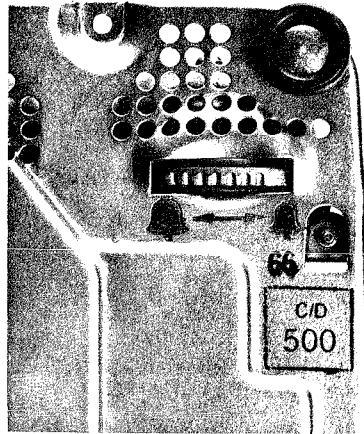

Fig. 3 — Base of 500-Type Set
2.06 All 500- and 554- type sets are manufactured with C4A ringers. The volume of these ringers may be adjusted to one of four levels. (See Fig. 3). A modification can be made to provide bell cutoff when authorized by a Service Order.
2.08 A code and an assembly date are stamped on the base of each set as shown in Fig. 3.